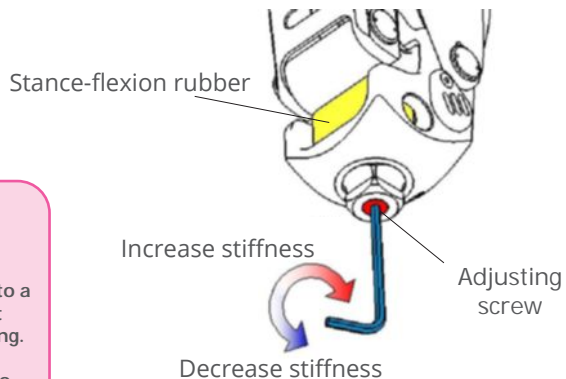

Fig. 9 - How to Adjust Stance-Flexion Stiffness
- Adjust the adjusting screw shown in Fig. 9 with a 3 mm hexagonal wrench.